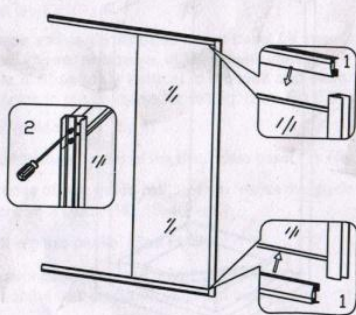

fig 6
5. Insert the **fixed panel glass(8)** into the groove of one **guide rail(1)**, then fasten the guide rail and glass profile using **round head screws ST4x30(16)**. (See Fig 6)